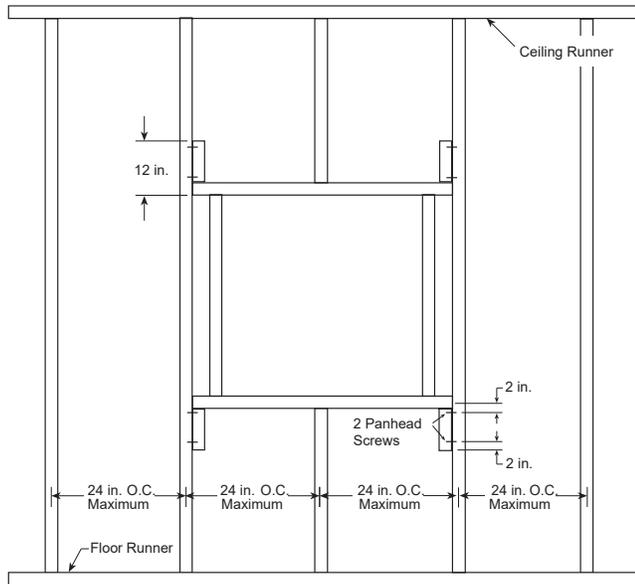

Figure 1
- Frame wall openings as shown below (see Figure 1, 2, & 2A).
- Gypsum wall board must be fastened 12 in. (305 mm) on center (O.C.) to all stud and runner flanges surrounding opening (see Figure 1, 2, & 2A).